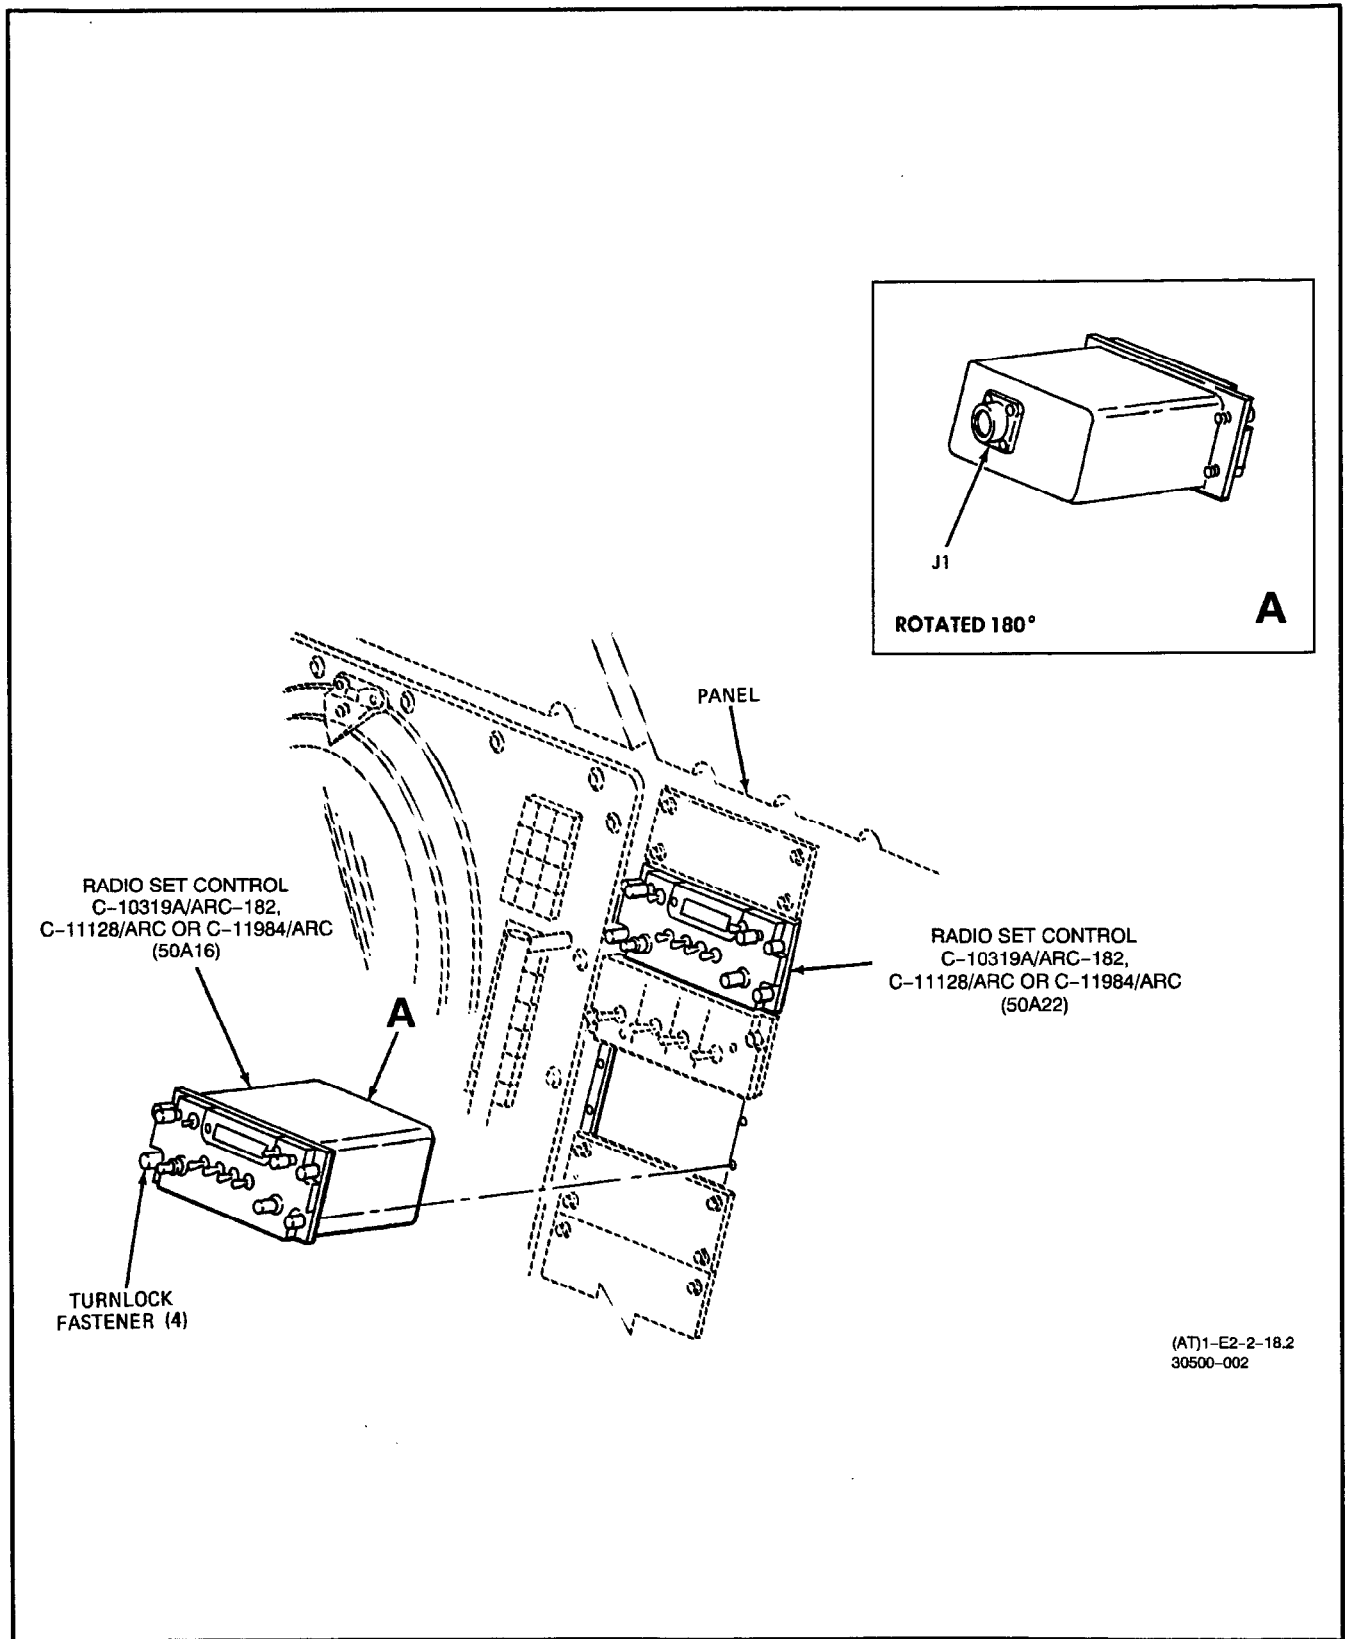

Figure 2. Removal and Installation of Radio Set Control C-10319A/ARC-182, C-11128/ARC, or C-11984/ARC in Crew Compartment
2. The IAD Gate Generator (hereinafter referred to as the generator) (44A10) is part of the IFF Interrogator RT-988/A. The generator is in the equipment compartment, left side. Refer to WP003 00 (figure 2, item 113) for location of generator.